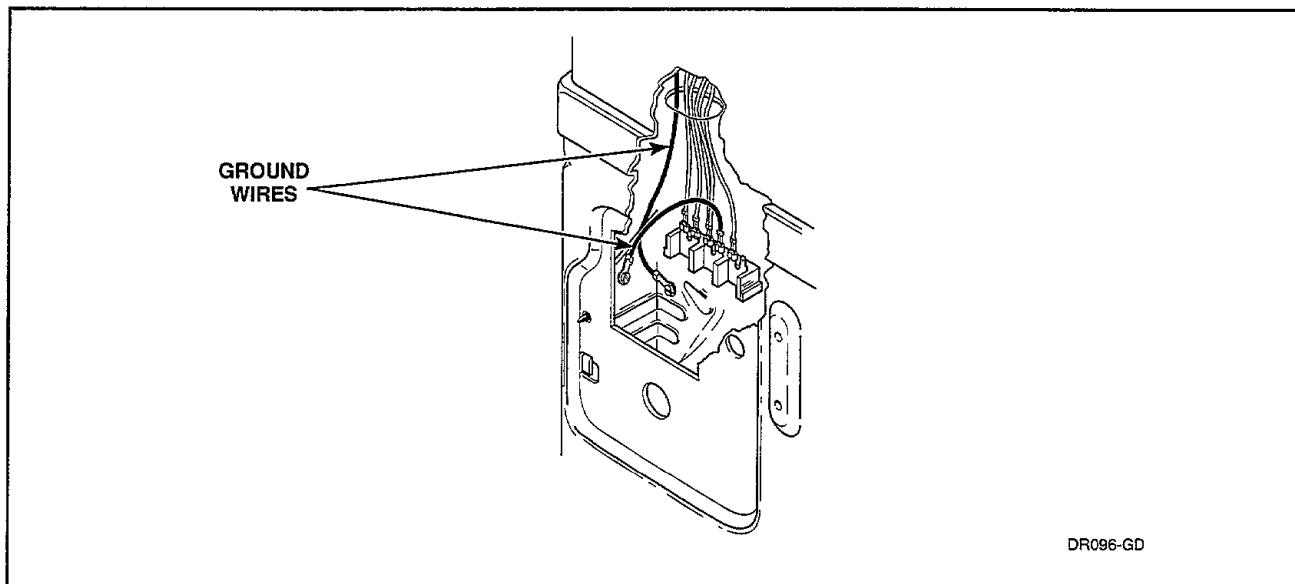

Figure 2
2. **NEUTRAL AT TERMINAL BLOCK TO REAR BULKHEAD AND FROM REAR BULKHEAD TO CONTROL HOUSING, *Figure 2* (Electric Models Only).**